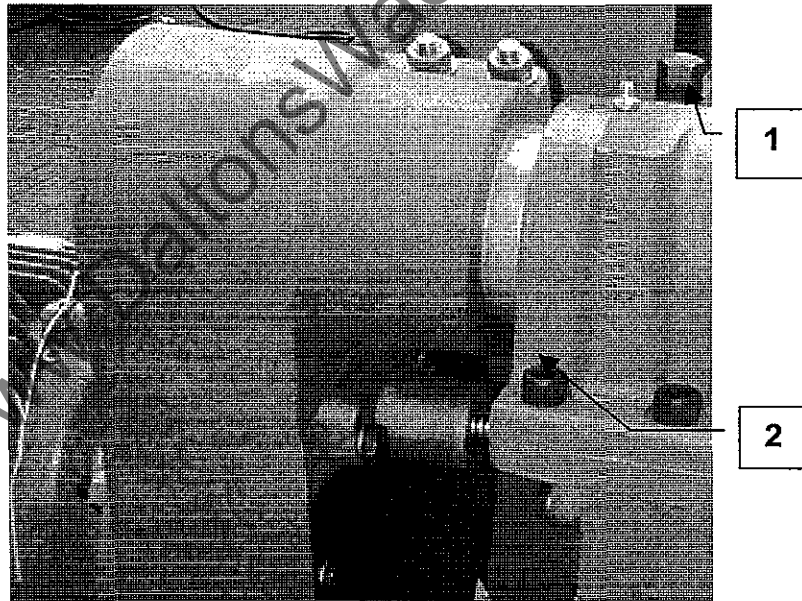

Figure 7.3.7
- 5 Slot the 'C' washer (2) over the draw bolt (1) and tighten the draw bolt.
7.3.7 Replace Bottom/Top Head Spindle (Figure 7.3.7)